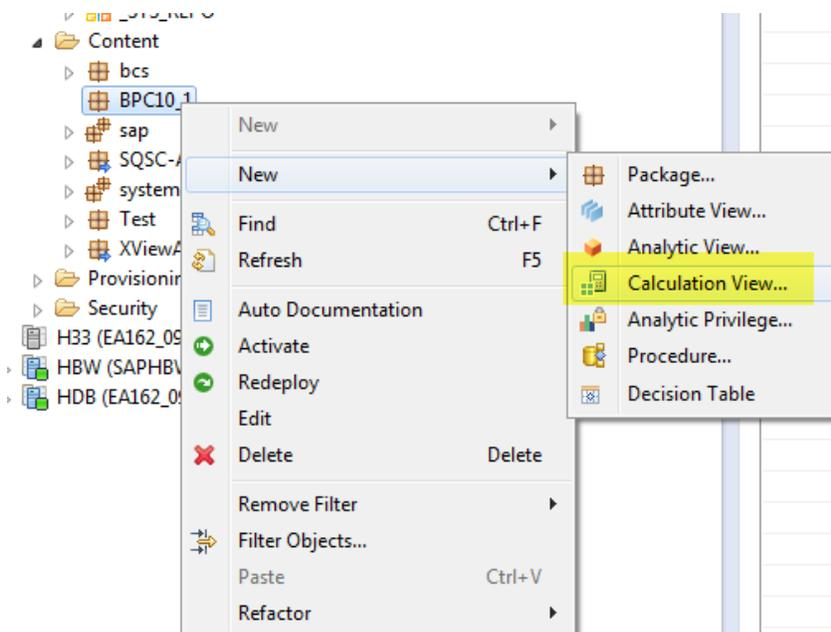

Figure 15 – Create a calculation view
1.8 **Create a calculation view** – Select the package created above and right mouse click to select 'New' and 'calculation view' as shown in figure 15.